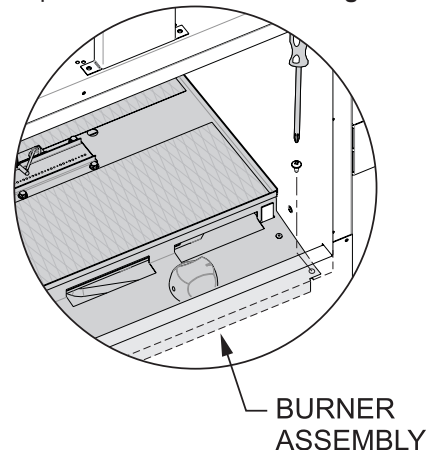

Figure 18
9. Remove two screws from front corners of the control panel with a Phillips head screw driver. See Figure 18.